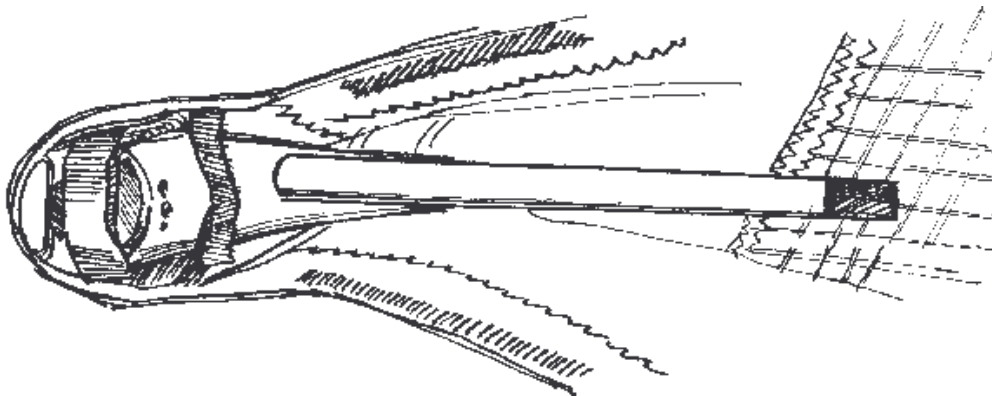

Fig. 10
2.2.5. Look into the sail at each wing tip. Tip battens must be rested on the batten stop. The washout tip must be installed. Check for any evidence of dents, deep scratches, cracks or bends in the LE tubes. Be sure that the sail mount webbing is safely and correctly secured in the end cap slot (Fig. 10). Check for symmetric tension of the sail.